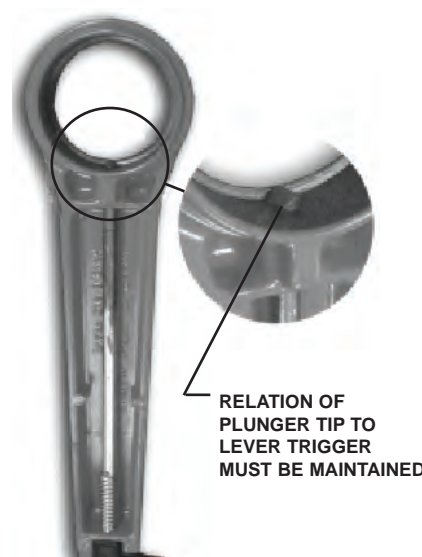

Figure 11. Lever Assembly
- B. When assembling Lever Trigger (640-180) be sure to maintain relation of Lever Plunger tip and Lever Trigger as shown in Fig. 11.